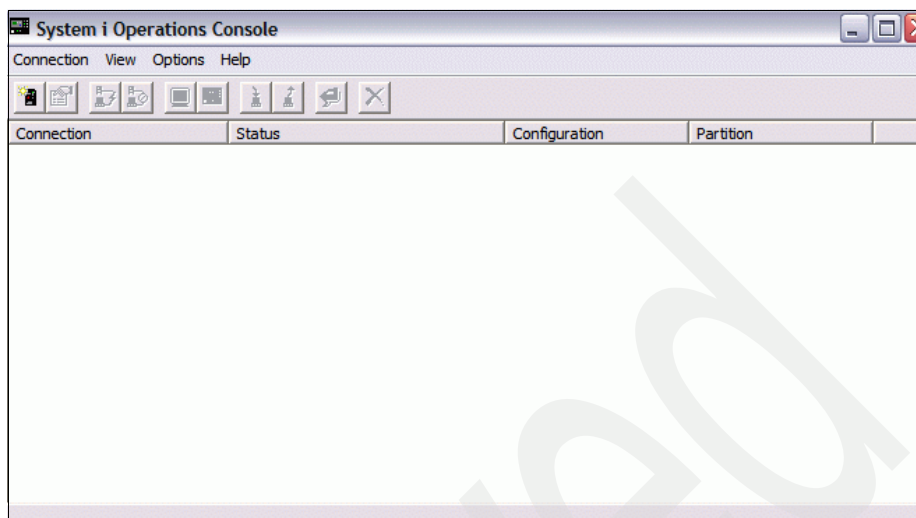

Figure 7-33 IBM System i Operations Console
1. In the active Windows session, select **Start → All Programs → IBM System i Access for Windows → Operations Console**. The System i Operations Console window shown in Figure 7-33 on page 274 opens.